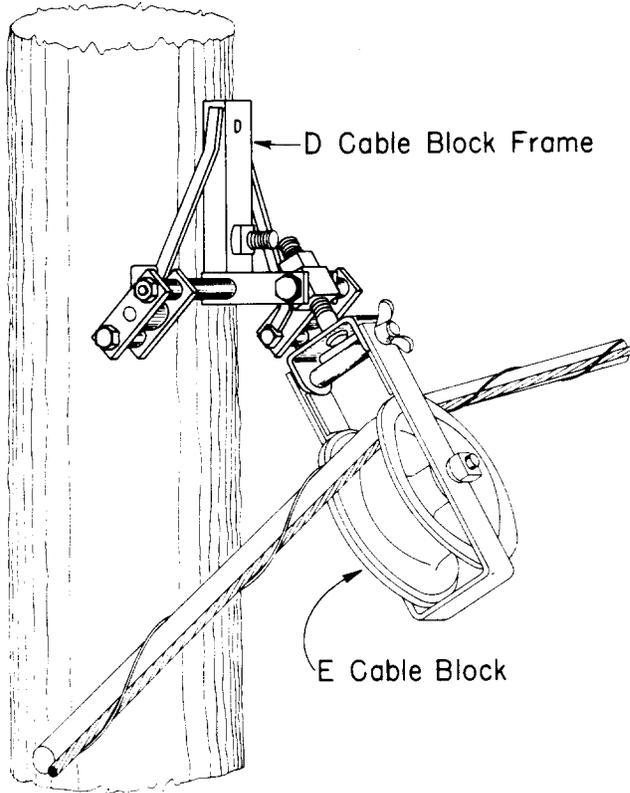

Fig. 10—D Cable Block Frame (With E Cable Block Installed)
6.04 The *D cable block frame* (Fig. 10) is used at inside corners where the pull is more than 3 feet but does not exceed 8 feet.